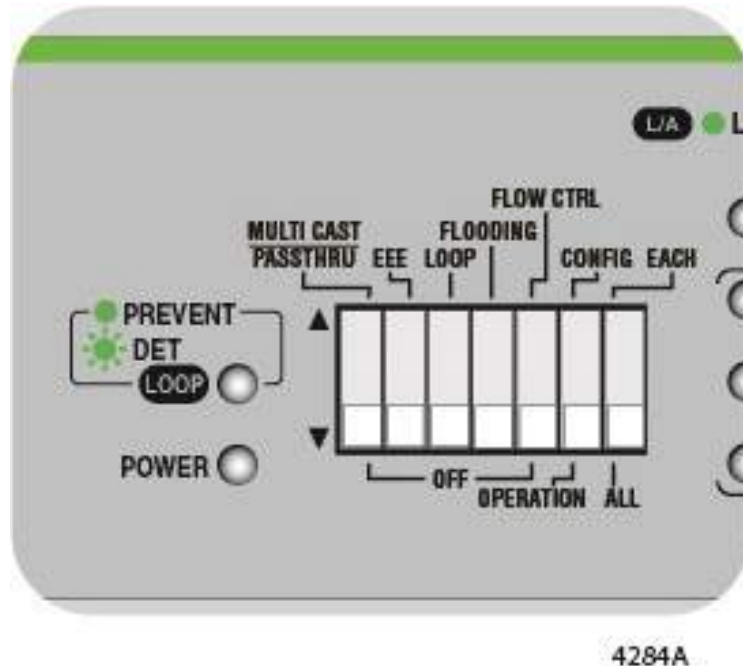

Figure 48. DIP Switch Settings for Disabling Loop Prevention
1. Set DIP switch # 3 to the DOWN position. See Figure 48.